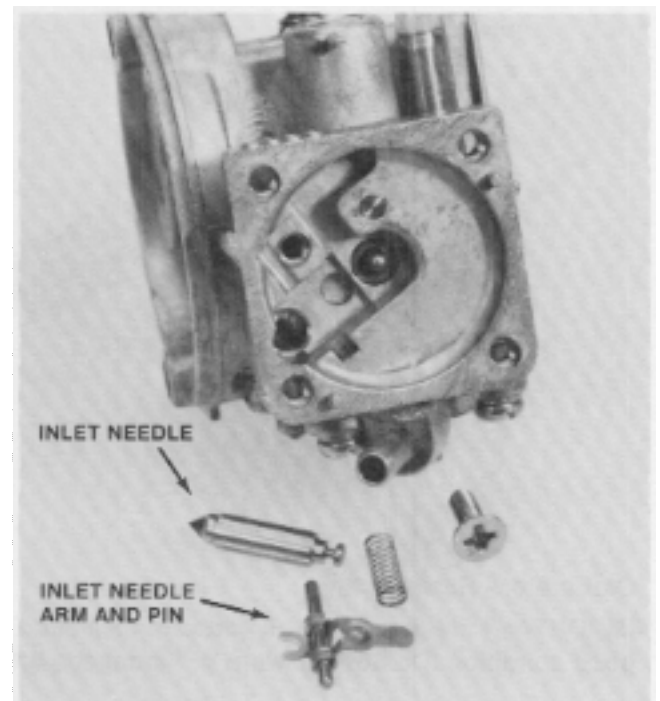

Figure 22
4. Remove the inlet needle pieces from the carburetor by removing the inlet needle pin set screw and carefully lifting out the inlet needle arm with inlet needle pin, the inlet valve spring and the inlet needle valve. See Figure 22.